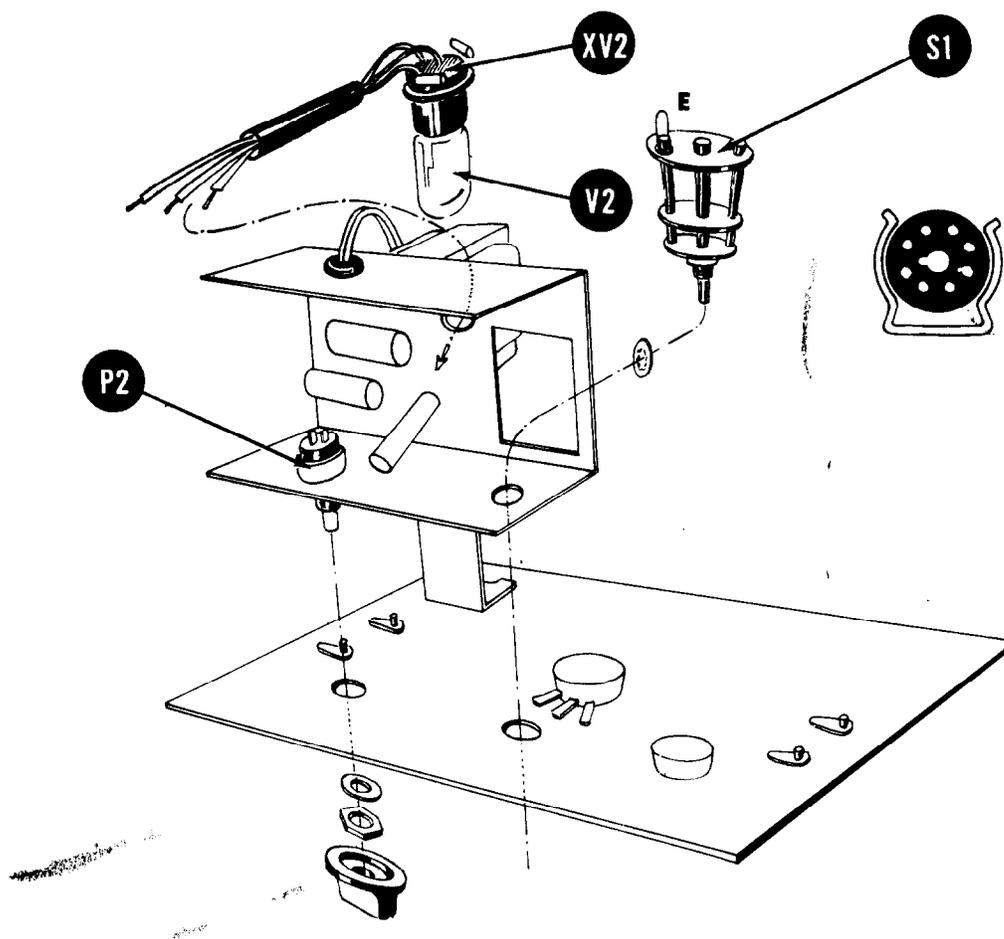

Fig.6
- 1) Fig. 6. Fasten the panel to the chassis using the 1 K Ω power factor potentiometer, P2. (Disassemble potentiometer from chassis and use same hardware to reassemble.)
- 2) Fig. 6. Likewise, install the rangeswitch, S1. Use one 3/8" hex nut, one 3/8" flat washer and one 3/8" lockwasher. Be sure to position the switch so that the side on which the ground lug is located faces the 1 K Ω power factor potentiometer, P2.
- 3) Fig. 6. Insert the 1629 tube in the prewired octal molded socket. Then press the tube into the holder so that the front of the tube just touches the panel and the keyway in the socket is positioned as shown in the small drawing (as seen from the rear).